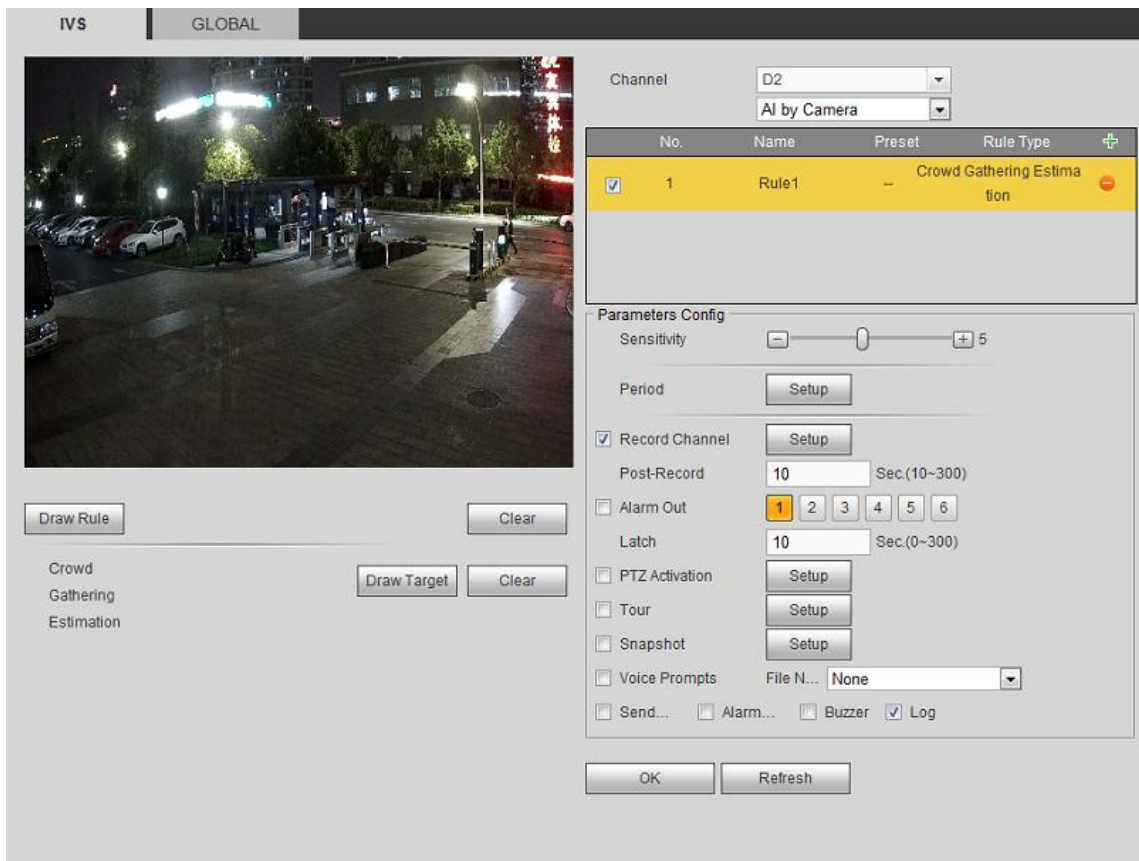

Figure 5-76
Step 2 In the Type drop-down list, select Crowd Gathering Estimation. See Figure 5-76.